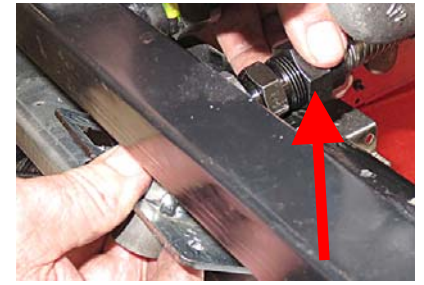

Figure 31
34. Attach the flexline #2 from the dispose switch assembly in Figure 27, to the dispose outlet assembly (see Figure 31).